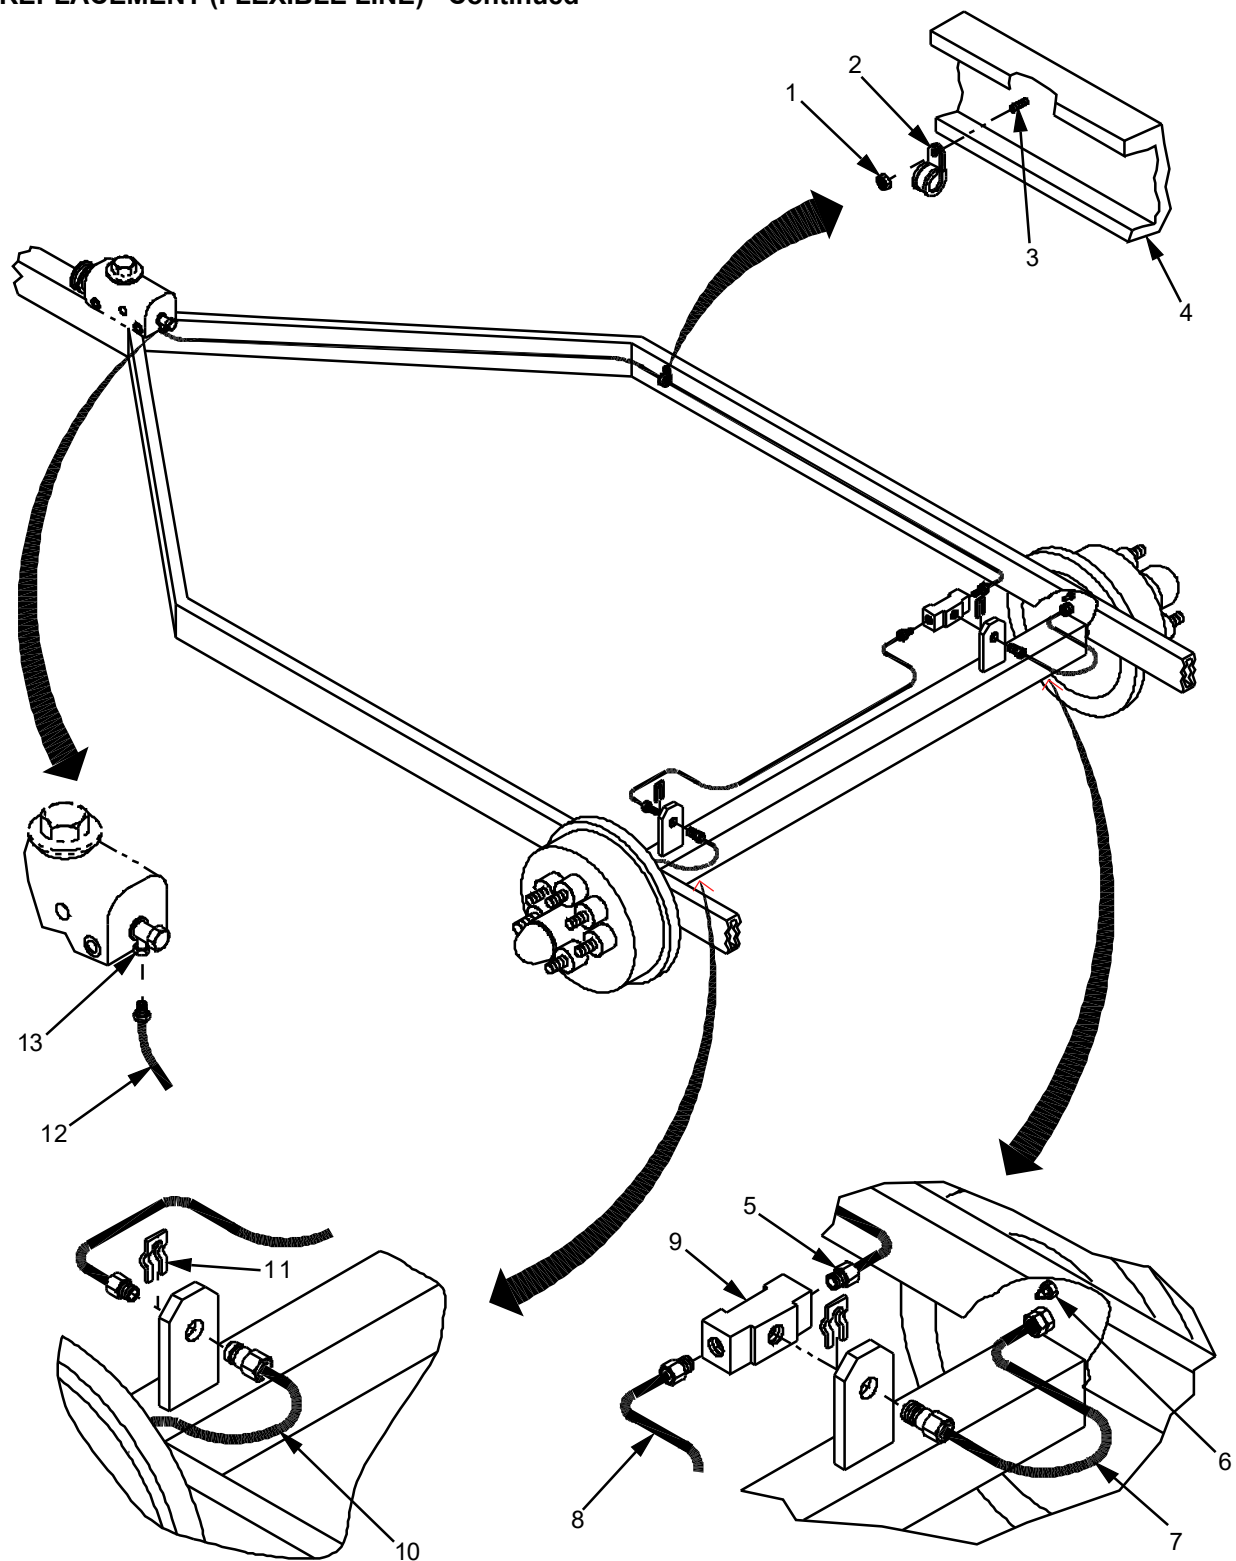

Figure 2. Brake Line Removal/Replacement.
8. Disconnect the main hydraulic brake line (Figure 2, Item 12) on master cylinder (Figure 2, Item 13).
9. Remove and retain mounting clamps (Figure 2, Item 2) from brake line and discard brake line.
1. Place the main hydraulic brake line (Figure 2, Item 12) into position through the trailer frame.
2. Place the five mounting clamps (Figure 2, Item 2) onto the main hydraulic brake line (Figure 2, Item 12) in the vicinity of the five mounting studs (Figure 2, Item 3) and place the opening of the clamps onto the studs.
3. Attach the main hydraulic brake line (Figure 2, Item 12) onto the master cylinder (Figure 2, Item 13) and tighten down.
4. Connect the main hydraulic brake line connector (Figure 2, Item 5) to the distribution block (Figure 2, Item 9) and tighten down.
5. Install the five lock nuts (Figure 2, Item 1) onto the main hydraulic brake line mounting studs (Figure 2, Item 3) and tighten down.
5. Disconnect cross over hydraulic brake line (Figure 2, Item 8) from the flexible brake line (Figure 2, Item 10). Remove and retain clip (Figure 2, Item 11).
6. Disconnect cross over hydraulic brake line (Figure 2 Item 8) from hydraulic brake line distribution block (Figure 2, Item 9).
1. Place the cross over brake line (Figure 2, Item 8) into position.
2. Finger tighten the cross over brake line (Figure 2, Item 8) onto the hydraulic brake line distribution block (Figure 2, Item 9) on curb side of trailer.
3. Finger tighten cross over brake line (Figure 2, Item 8) onto the flexible brake line (Figure 2, Item 10) on street side of trailer and secure with clip (Figure 2, Item 11).
3. Place drain pans under both ends of the flexible brake lines (Figure 2, Item 3).
4. Disconnect the flexible brake line (Figure 2, Item 7) from the wheel cylinder (Figure 2, Item 6).
5. Disconnect the flexible brake line (Figure 2, Item 7) from the distribution block (Figure 2, Item 9). Remove and retain clip (Figure 2, Item 11).
6. Disconnect the flexible brake line (Figure 2, Item 10) from the wheel cylinder.
7. Disconnect the flexible brake line (Figure 2, Item 10) from the cross over hydraulic brake line (Figure 2, Item 8). Remove and retain clip (Figure 2, Item 11).
1. Place the flexible line (Figure 2, Item 10) into position.
2. Finger tighten the flexible brake line (Figure 2, Item 10) onto the cross over brake line (Figure 2, Item 8). Retain with clip (Figure 2, Item 11).
3. Finger tighten the flexible brake line (Figure 2, Item 10) onto the wheel cylinder.
5. Finger tighten the flexible brake line (Figure 2, Item 7) onto the distribution block (Figure 2, Item 9). Retain with clip (Figure 2, Item 11).
6. Finger tighten the flexible brake line (Figure 2, Item 7) onto the wheel cylinder (Figure 2, Item 6).